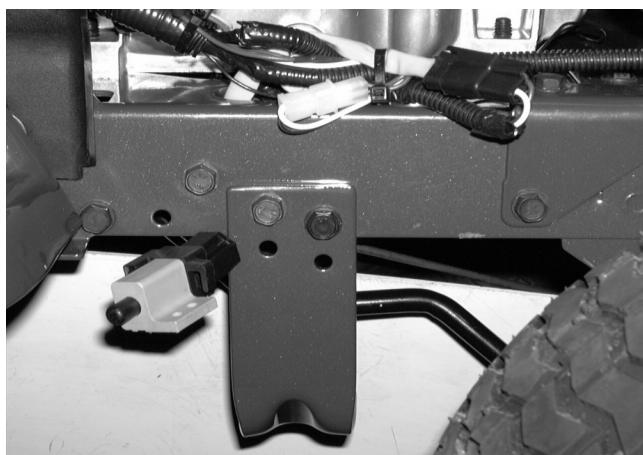

FIGURE 2.
- 2). Pull the wiring harness connector and brake switch forward and slide it toward the right frame rail. See figures 2 and 3.